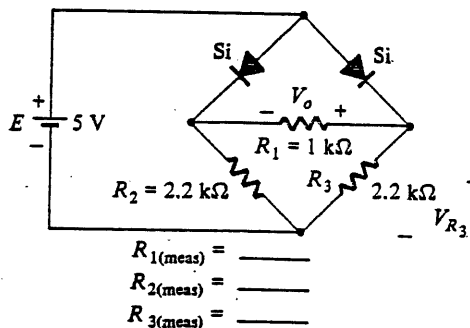

Figure 3-10
- a. Construct the network of Fig. 3.10. Record the measured value of each resistor.
- a. If the diode in the top right branch of Fig. 3.10 was damaged, creating an internal open-circuit, calculate the resulting levels of  $V_o$  and  $V_{R_3}$ .
- b. Remove the top right diode from Fig. 3.10 and measure  $V_o$  and  $V_{R_3}$ . Compare the results with those predicted in Part 6(a).